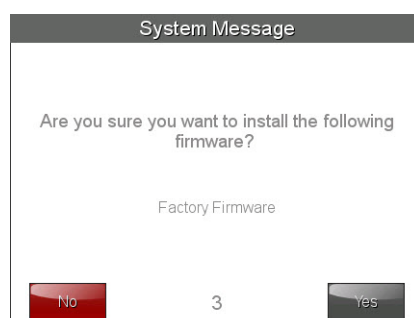

FIG. 24 Previous Firmware installation confirmation dialog box
5. The *Confirmation Dialog* box (FIG. 24) will ask “Are you sure you want to install the following firmware?” The option to choose **Yes** will be enabled after five seconds. Press **Yes** to load the firmware listed, and **No** to return to the *Firmware Installation* popup window.